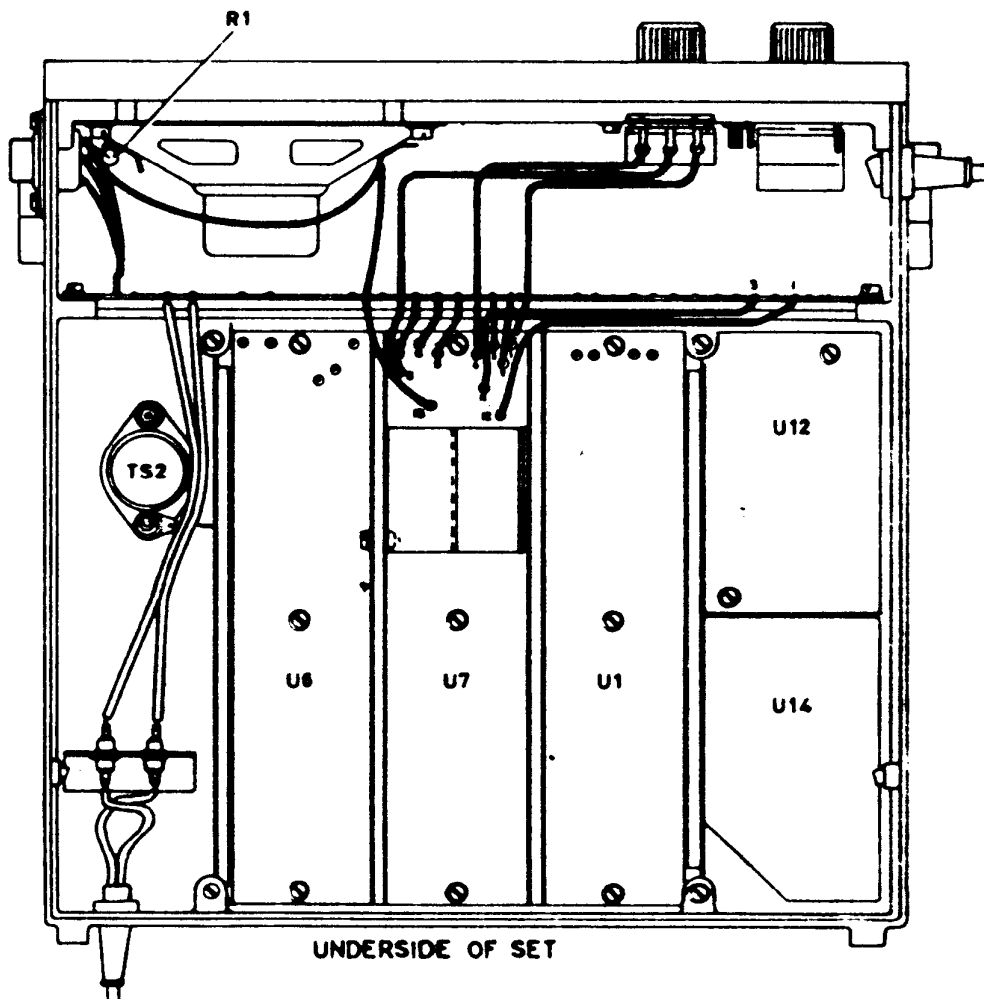

Figure 3-6 U7 Audio Card Wiring
- g. Refer to figure 3-6 for routing of the following connections of U7 Audio Card 451-782-243/248.